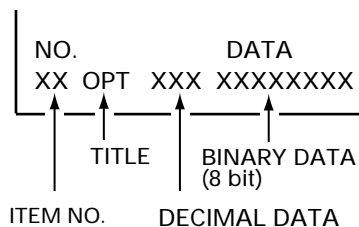

Figure 1. Service Menu Display
- While pressing the MENU key, reconnect the AC power cord. The Service Menu Display will now appear. (See Figure 1.)